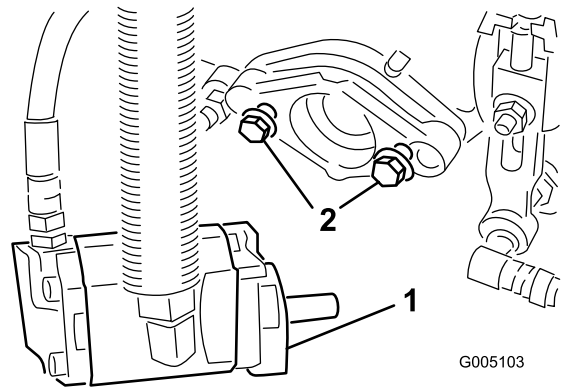

Figure 10
6. Ensure that there is approximately 13 mm (1/2 inch) of threads exposed on each reel drive motor mounting bolt (Figure 10).
9. Tighten the mounting bolts (Figure 10).